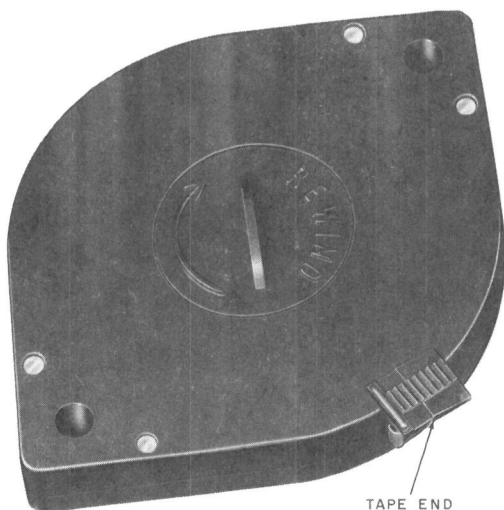

Fig. 9—KS-19245, List 6 Cartridge
- (e) The KS-19245, List 6 Cartridge (Fig. 9) provides a 1/4-inch wide plastic base magnetic recording tape with a capacity for 2 hours of incoming message recording time.